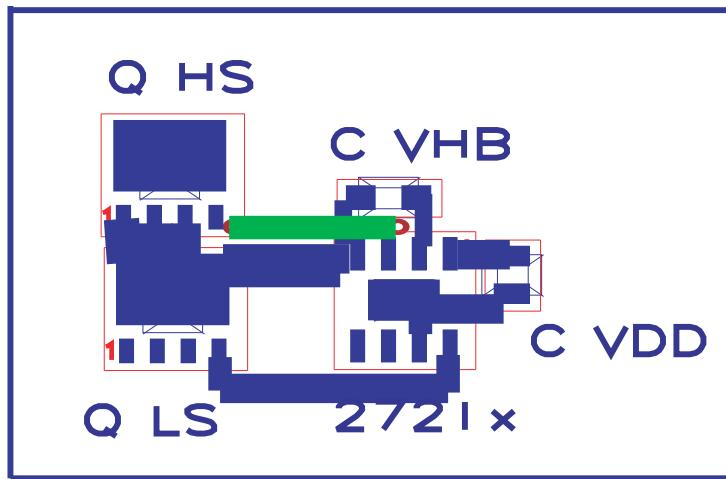

Figure 7-7. UCC27211 Component Placement
- Locate the V_{DD} - V_{SS} and V_{HB} - V_{HS} (bootstrap) capacitors as close as possible to the device (see Figure 7-7).
- Pay close attention to the GND trace. Use the thermal pad of the DDA and DRM package as GND by connecting it to the V_{SS} pin (GND). The GND trace from the driver goes directly to the source of the MOSFET but should not be in the high current path of the MOSFET(S) drain or source current.